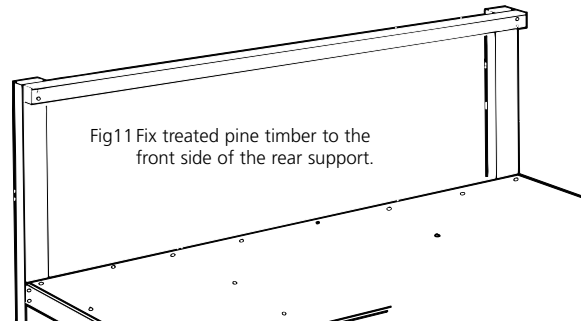

Fig11 Fix treated pine timber to the front side of the rear support.
- Mark out and cut one 2100mm length of 90x45mm treated pine and screw fix to the tops of the rear supports (see fig 11).